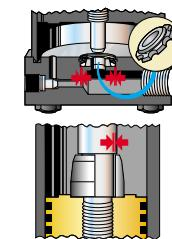

Figure 3-2
- Floating design allows closer tolerance, yet minimum wear (see Fig. 3-2)